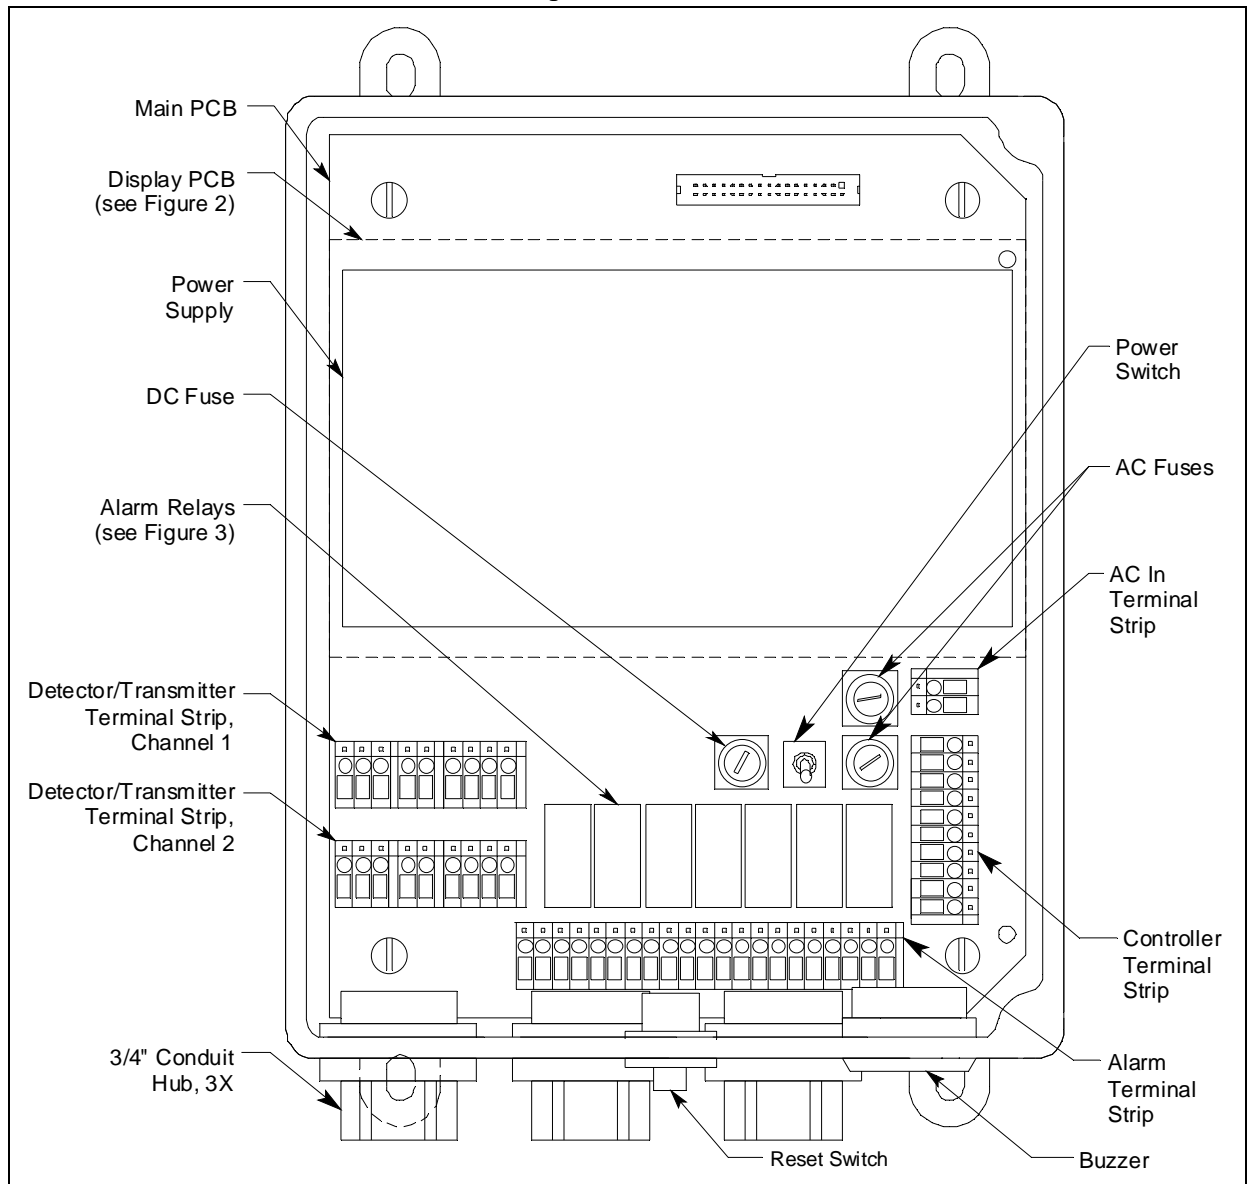

Figure 1. Beacon 200 Gas Monitor Component Location
- **Detector/Transmitter Terminal Strips.** Two detector/transmitter terminal strips are located near the bottom left corner of the main circuit board (see Figure 1). These two 9-point terminal strips facilitate wiring connections to the detectors or transmitters. Although each terminal strip can accommodate several different detector head models, only one detector head at a time may be wired per channel. The top terminal strip is for channel 1 and the bottom terminal strip is for channel 2.
- **Alarm Terminal Strip.** The alarm terminal strip is located along the bottom edge of the main circuit board (see Figure 1). This 21-point terminal strips facilitates wiring connections to external alarm devices (horn, strobe, etc.). Terminals are provided for individual channel as well as common alarm relay contacts.
- **Controller Terminal Strip.** The 10-point controller terminal strip is near the lower right edge of the main circuit board (see Figure 1). The controller terminal strip facilitates various internal and external wiring connections. Table 3 lists the function of each terminal.
- **AC In Terminal Strip.** The AC in terminal strip is a 2-point terminal strip located above the controller terminal strip (see Figure 1). It facilitates wiring from the AC power source. Table 4 lists the function of each terminal.
- **Channel Relays.** The four channel relays are above the alarm terminal strip (see Figure 1). These relays are dedicated to specific channels and alarm levels.
- **Common Relays.** The three common relays, alarm 1, alarm 2, and fail, are to the left of the controller terminal strip (see Figure 1). These relays are common for both channels.
The power switch is located above the relays and in between the AC and DC fuses (see Figure 1). The power switch turns the incoming AC power source on and off at the Beacon 200. When the switch is up, the power switch is on.